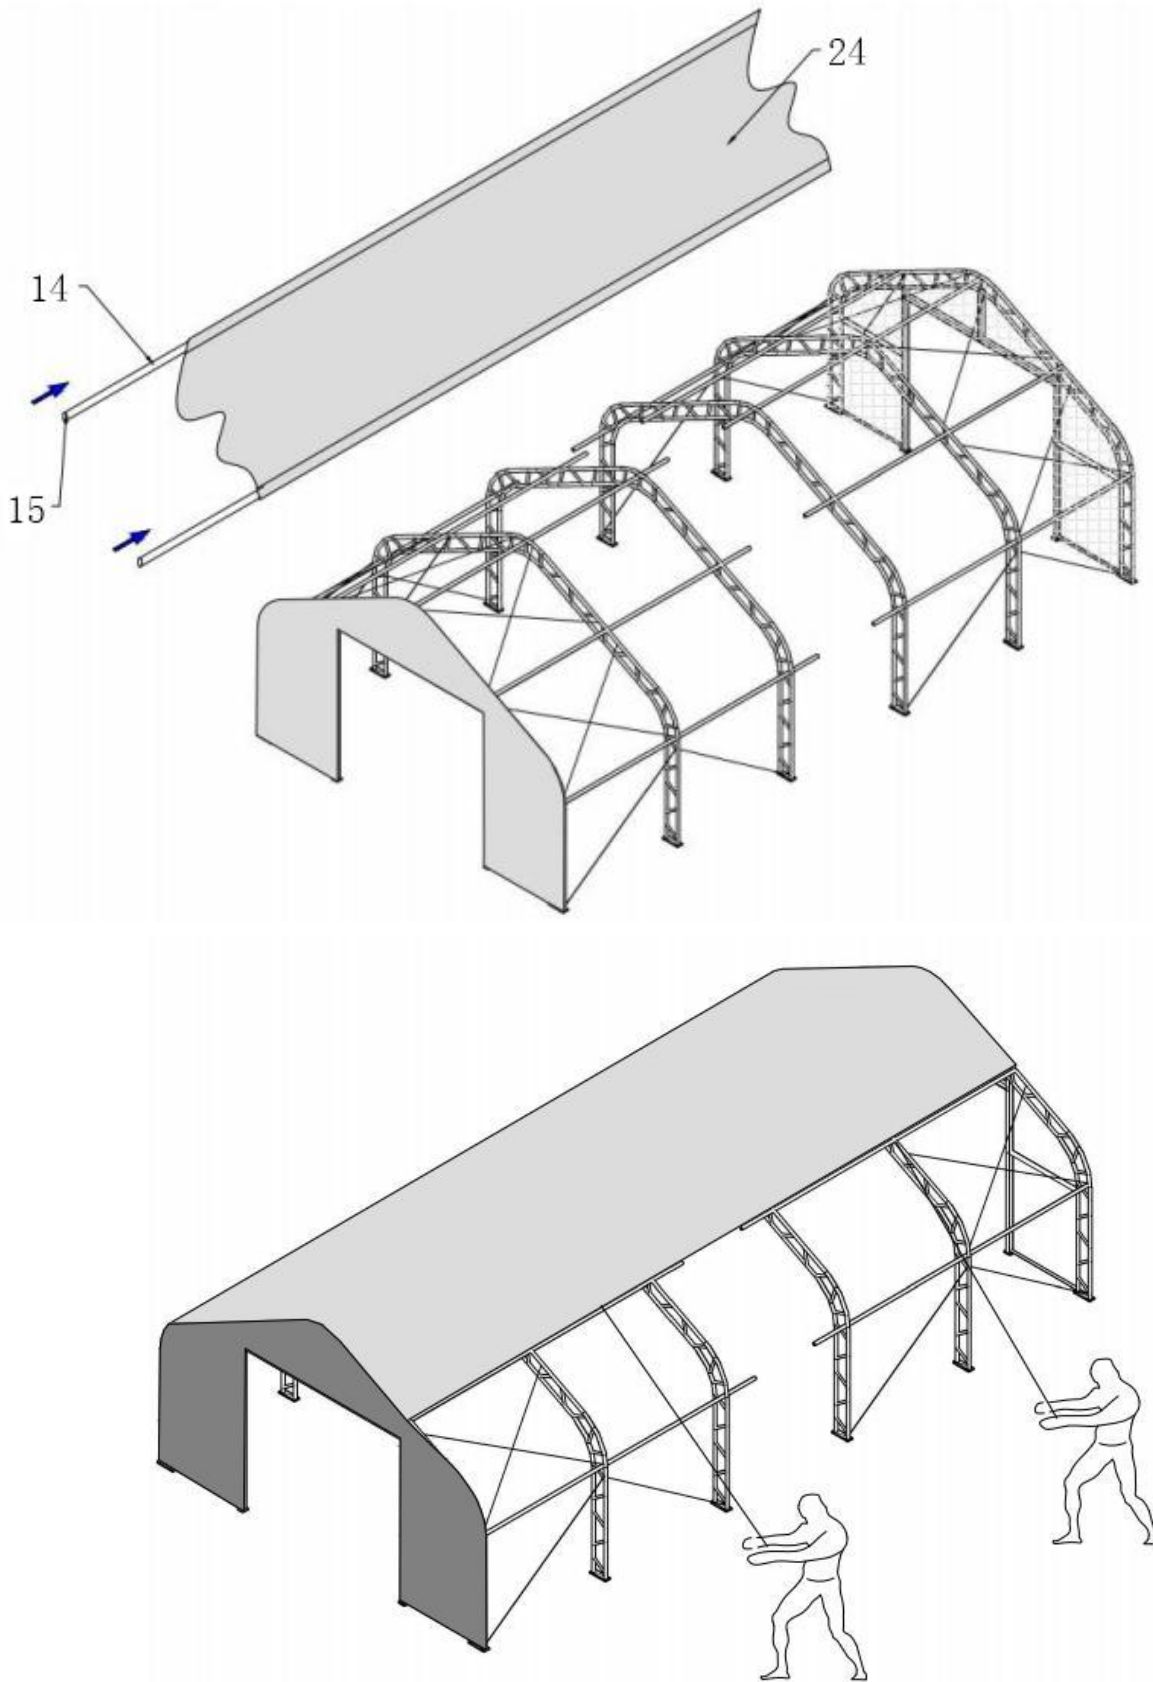

Figure 8
1. When Roof cover is over top of Frame assembly (see Figure 8), insert Tensioning tubes (No.14) into pockets along both sides of Roof cover, cut opening for Nylon band for ratchet, find the Nylon band over tube feed end into tie down to ratchet (No.21).